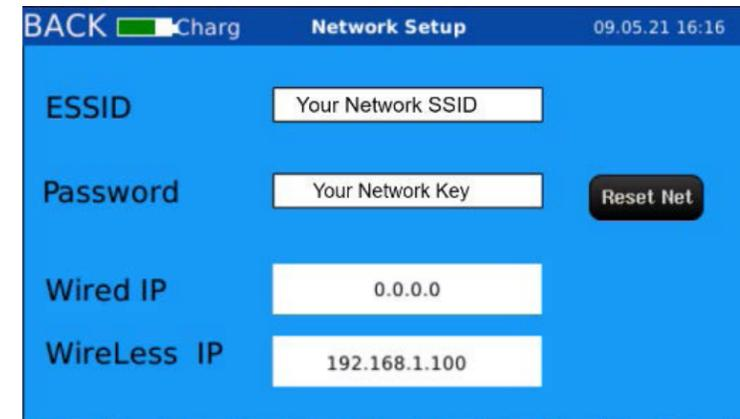

Figure 54. Enter wireless network credentials
2. Select the **ESSID field** and enter the identifying name of your wireless network (Figure 54).
3. Select the **Password field** and enter the wireless network password (Figure 54).